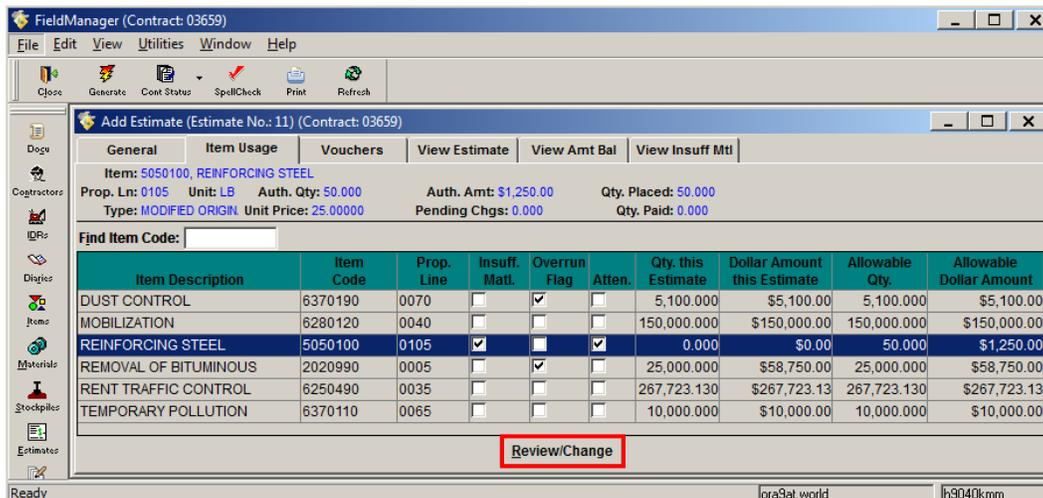
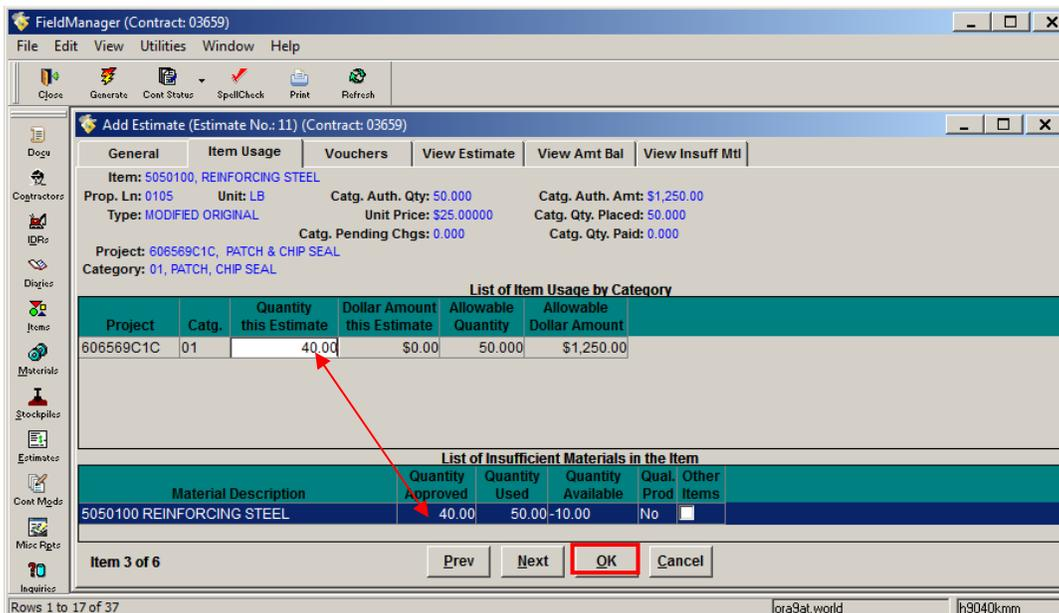

Figure 11-7. Add Estimate Tab Window – Item Usage Tab (Insufficient Material)
Figure 11-8. Add Estimate Tab Window – Item Usage Change Window (Insufficient Material Change)
1. Select the Insufficient Material item and click the **Review/Change** button (Figure 11-7). The Item Usage Change/Review window opens (Figure 11-8).
- Update the **Quantity this Estimate** amount to match the **Quantity Approved** amount (Figure 11-8).
- Click the **OK** button to return to the **Item Usage** tab (Figure 11-8).